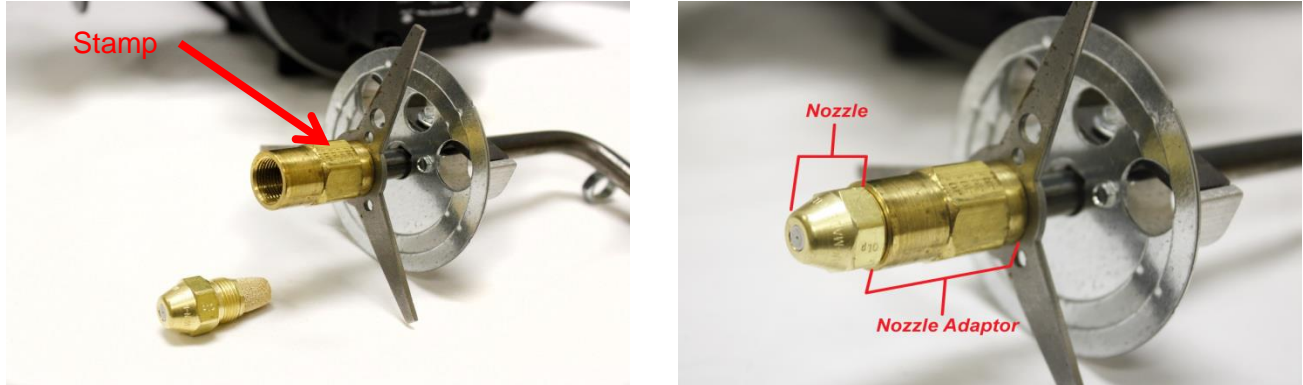

Figure 13 EH/EHASR Oil Gun Nozzle Installation (Flamelock and electrodes removed for clarity).
- Thread the nozzle into the nozzle adaptor finger tight, then tighten the nozzle securely with a 5/8" wrench, while using a 3/4" backing wrench to hold the nozzle adaptor. Do not over tighten. There is a brass stamp that reads "TOP" on the nozzle adaptor that should be orientated up (Figure 13).